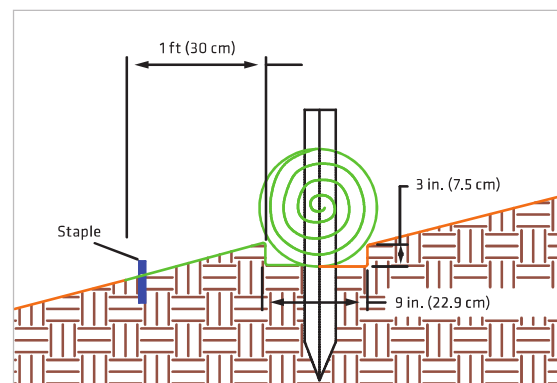

FIGURE 6
7. Backfill and compact soil into the upslope portion of the anchor trench. Smooth and level any soil remaining above the SediMax-FR not used to fill the anchor trench. Place seed along upslope portion of SediMax-FR if required (Figure 6).